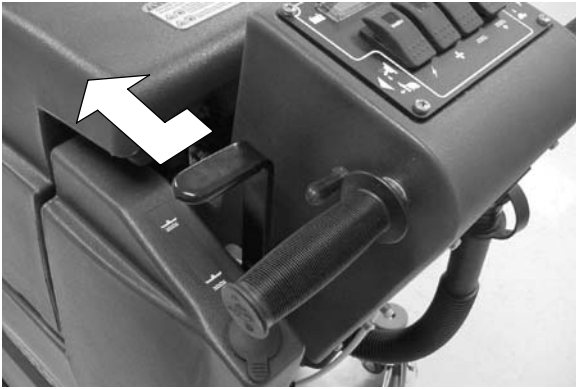

FIG. 15
2. Disengage the squeegee lift lever from the up position and lower the squeegee (Figure 15).